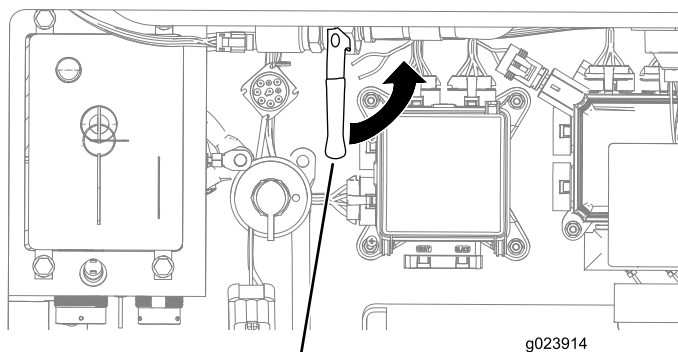

Figure 160
A. Open the antifreeze valve inside of the rear compartment (Figure 160).
6. Close the antifreeze valve (Figure 160).